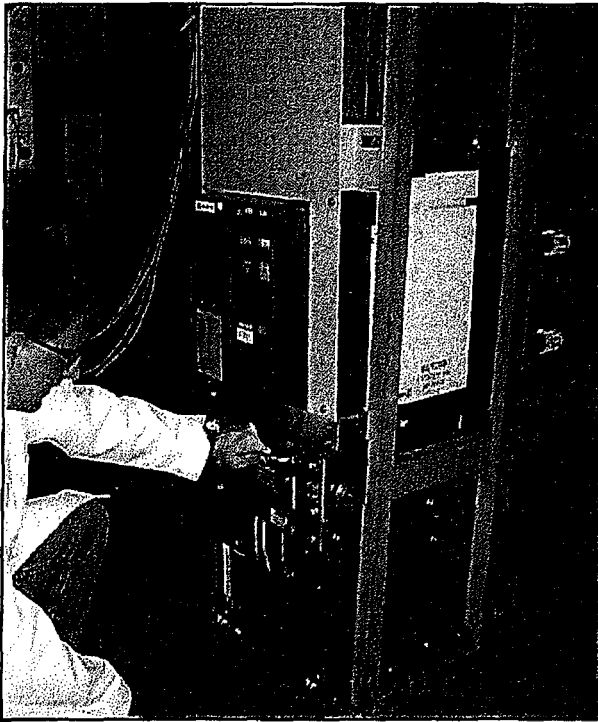

Figure 4-7 Insertion of 50DH-VR
d. Push the circuit breaker into the cell until all the wheels are on the cell floor and the breaker halts as the racking arm rollers meet the guide slots of the cell (Figure 4-7).